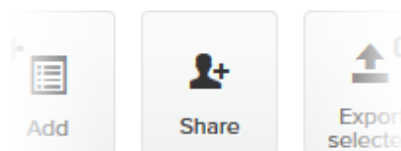

Figure 73. Plug-ins web page (Share button)
4. Click the **Share** button in the upper left-hand corner of the **Plug-ins** web page (Figure 73 \(page 152\)).